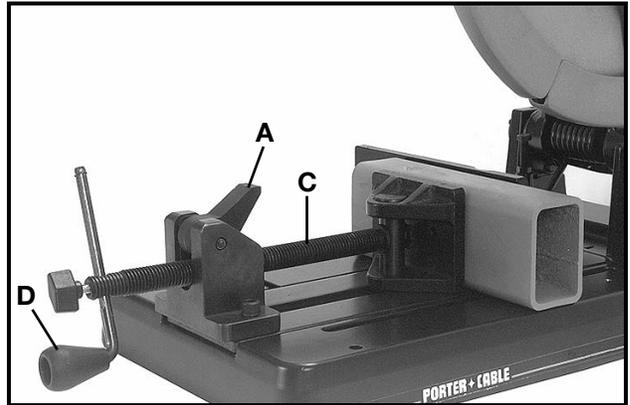

Fig. 9A
workpiece orientation). Move clamp locknut (A) Fig. 9A, forward to engage threads on clamp screw (C) Fig. 9A. Tighten vise securely by rotating clamp handle (D) Fig. 9A, clockwise. Make sure workpiece is clamped securely before proceeding.